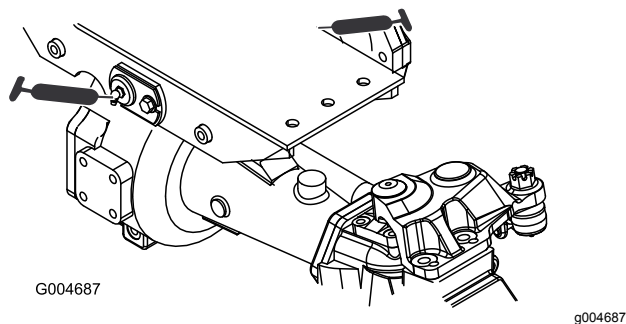

Figure 60
- Front and rear axle pivot bushings (2) (Figure 60)